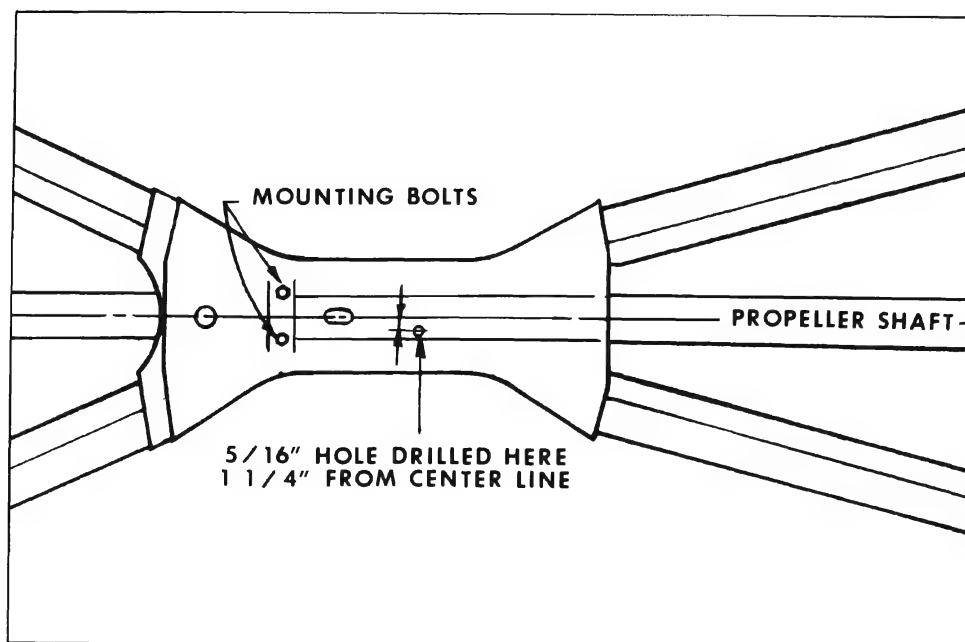

Figure 6-75—Locating Access Hole in Frame
4. To provide an access hole in the frame tunnel for inserting a screwdriver to tighten the hose clamps, drill a 5/16" hole located as follows: Measure from the rear of the frame tunnel forward to the first welded-on balance weight. Subtract 1/2" from this measurement; then using this distance, measure from the rear of the frame tunnel forward and mark this distance on the bottom outside frame tunnel. This locates the hole between the clamp screws so both can be reached. Offset the hole approximately 1-1/4" from the car centerline and drill the 5/16" hole. See Figure 6-75.